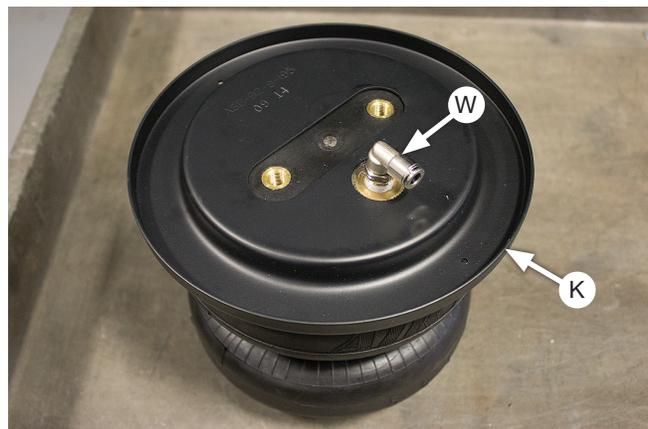

Fig. 7
1. Install the swivel elbow fitting (W) into the top of the air spring finger-tight. Tighten the swivel, fitting an additional one and a half turns. Place a roll plate (K) on top of the air spring (Fig. 7).